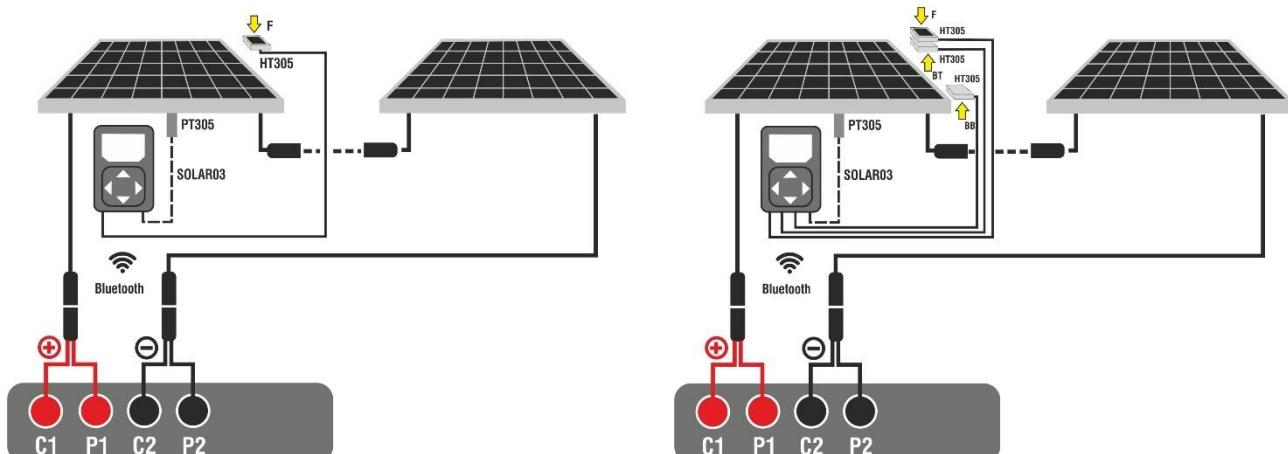

Fig. 39: Connection with remote unit SOLAR03 on Monofacial and Bifacial modules
3. Connect the instrument and the SOLAR03 remote unit to the module/string being tested as shown in Fig. 39. In detail: